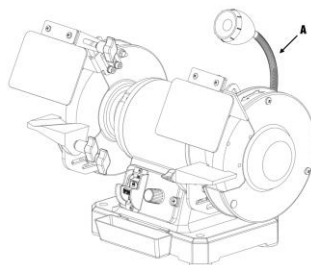

Fig. 9
This tool is equipped with an adjustable lamp (A) that operates independently from the rest of the tool (Fig. 9).